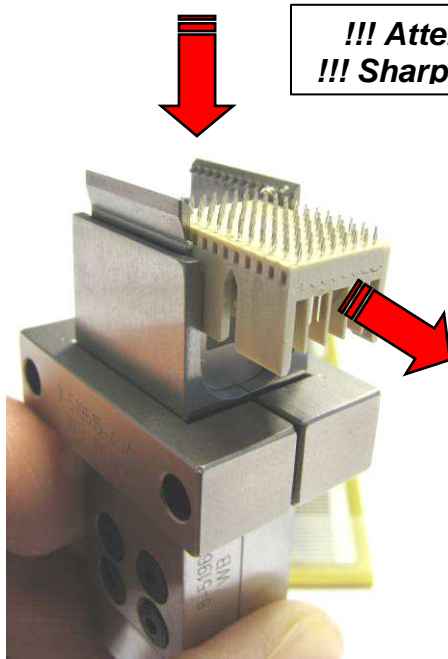

Figure 19
5. Next, the connector is pressed downwards and pulled out of the tool to the front (see figure 19 and 20).